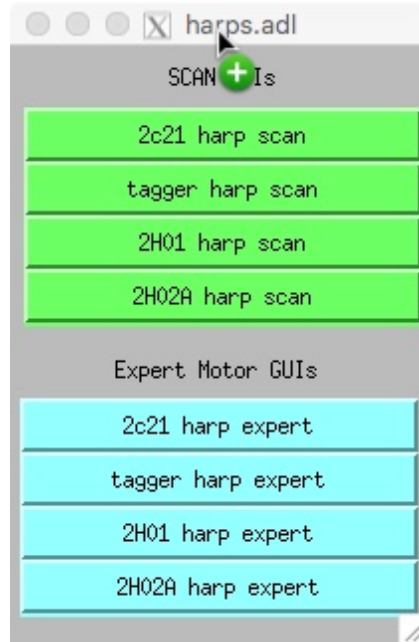
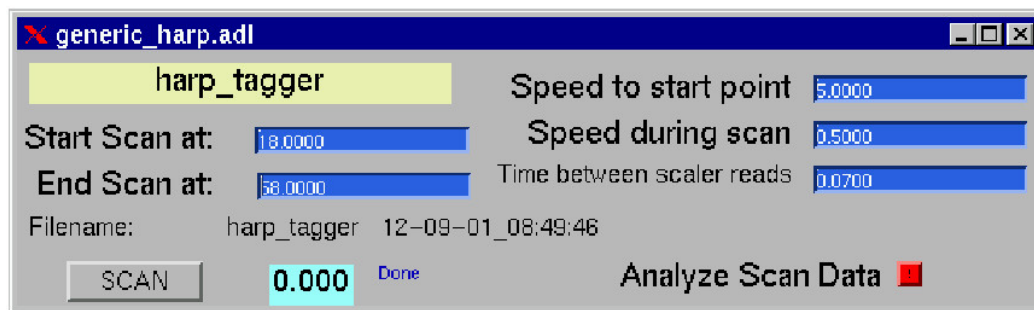

Figure 8: The main Harp medm screen. The green buttons on the top are for opening individual harp control. Cyan buttons below for expert GUIs.
Figure 9: The tagger harp medm screen. This GUI controls a stepper motor and the halo counter scaler settings.
There are four wire harps on the Hall B beamline, 2C21, "tagger" (2C24), 2H01A and 2H02A. The 2C21 harp has two 25  $\mu\text{m}$  tungsten wires that cross the beam in horizontal (X) and vertical (Y) directions. The "tagger", 2H01A and 2H02A harps have three thin 25  $\mu\text{m}$  tungsten wires, which cross the beam in X, Y, and 45° axis. The harp launch GUI, Figure 8, enables operator to open control GUI for the desired harp. A stepper motor in conjunction with the beam halo scalers is used to perform a beam profile measurements. The harp operation is controlled from the Harp GUI, see Figure 9. During a scan the beam halo scaler GUI is controlled by the scan application (see Section ??).
A wire scan can be performed from the wire scan GUI (Figure 9) which is launchable from *clas epics*. Once the scan is completed, the collimator will move to “out” position.